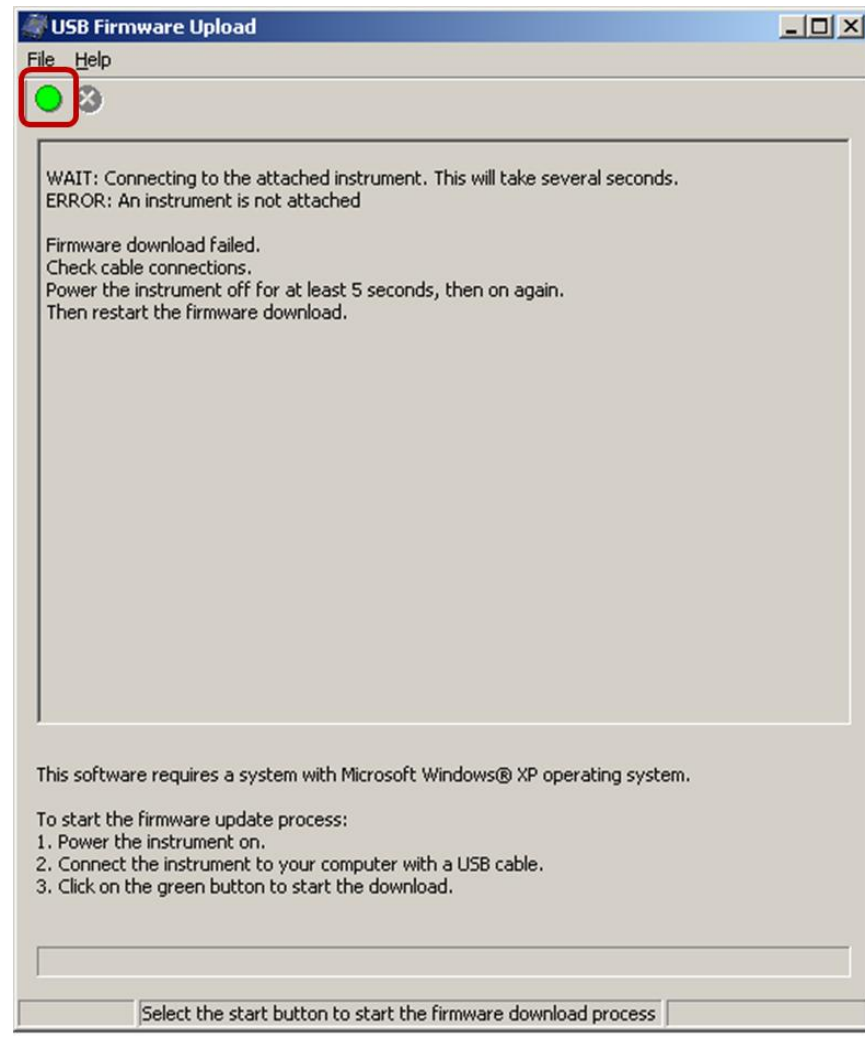

Figure 12
8. If the Firmware Upload application is displaying an error message similar to Figure 12, restart the Firmware Upload process by clicking the green **START**  button.